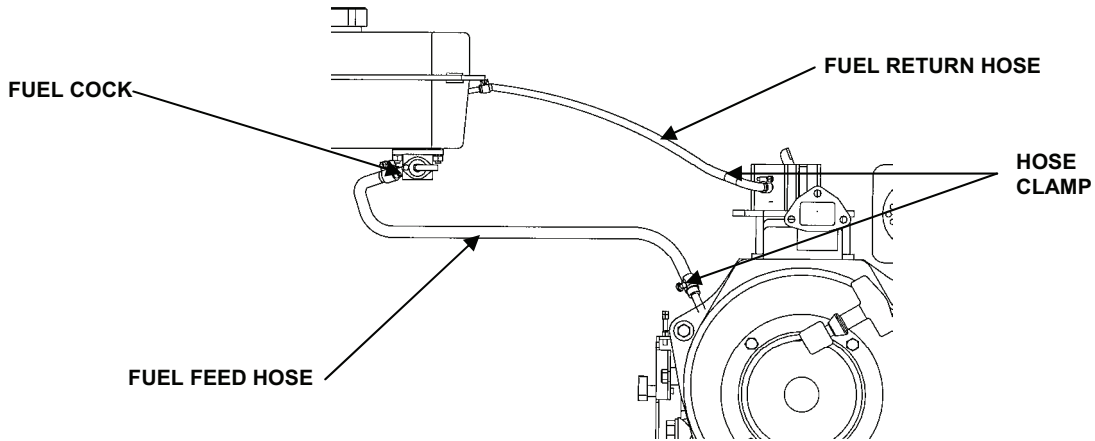

Figure 3. Fuel Tank and Hoses.
1. On underside of the fuel tank, turn fuel cock to shut (S) position. See Figure 3.
2. Disconnect fuel return hose and fuel feed hose from the engine by loosening hose clamps. See Figure 3.